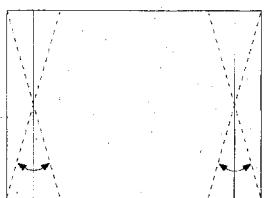

Fig. 4
- d) Adjust the PIN PHASE to obtain condition as in (fig. 4).